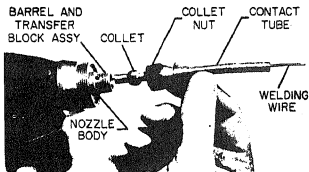

Figure 17. Installing Contact Tube
- d. Remove collet nut from Gun barrel (Fig. 17).